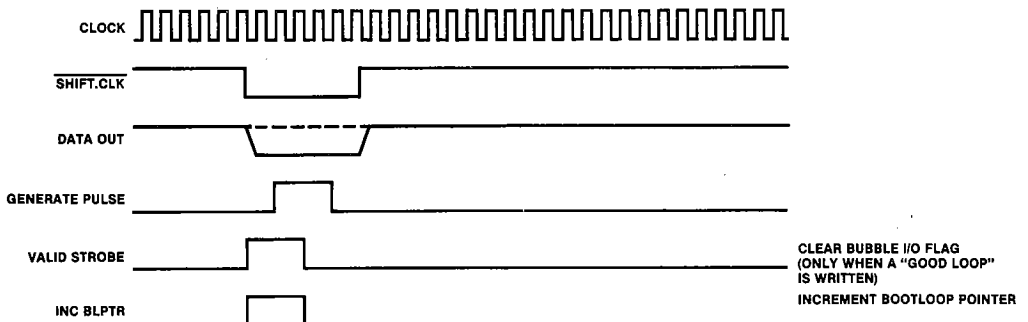

Figure 4. Write Timing
**Write Timing** — The timing for writing a bit from the FIFO shall be as follows (see Figure 4):